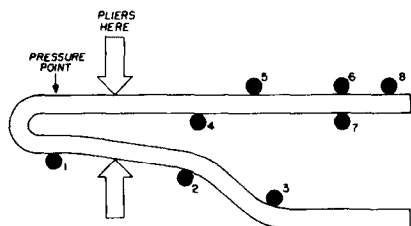

fig. 1. Jig layout for making soldering tips for Weller soldering guns.
the block. Trace the complete outline of the soldering-gun tip onto the block (see fig. 1). Set the new tip aside.
Step 2: With a 3/32-inch (2.4mm) drill, bore three holes each 3/4 inch (20mm) deep at points 1, 2, and 3 (fig. 1). These holes will be for the finishing nails to provide bending points on the jig. (A nail is inserted into each hole individually each time a bend is made, then all three nails are removed when the new tip is completed.) Next, drive a brad into the block at points 4, 5, 6, 7, and 8 so that 1/2 inch (13mm) is straight above the block surface. These brads form a channel for the straight portion of the tip.
Fig. 1 shows the probe location in a 1296-MHz circular waveguide horn with respect to the horn diameter. The probe location varies with horn diameter because phase velocity depends on the diameter. The graph shows the quarter-wave spacing of the probe from the shorted end of the guide.
Note that in fig. 1, the smaller the horn diameter, the further the probe should be from the shorted end of the guide. The probe spacing increases rapidly for horn diameters less than about 6 inches (15cm) because the waveguide cutoff frequency is being approached. For
fig. 1. Probe location for a 1296-MHz circular waveguide horn with respect to horn diameter. The equation for the curve is also shown, where λ_0 and f_0 are respectively wavelength and operating frequency; L is probe location from the closed end in inches (mm); λ_c is horn cutoff wavelength; and r is horn radius.
Fig. 1 can be used for 432 MHz simply by multiplying the horn diameter and probe location numbers by 3. Fig. 2 shows probe locations for 2304-MHz horns. The curves can be scaled for use at other frequencies by multiplying the diameter and probe locations by the ratio of the two frequencies. For example, a 6-inch-diameter (15.2cm) 1296-MHz horn scales to 3.375 inches (86mm) at 2304 MHz by multiplying the diameter by 1296/2304. Using the same multiplication factor, the probe (which is 4.9 inches [124mm] from the short on 1296 MHz) should be 2.76 inches (70mm) from the short at 2304 MHz. The overall length of the horn antenna can be any reasonable value so long as the probe is not located immediately at the open end of the horn. A good rule of thumb is to make the horn length between $2L$ and $3L$.